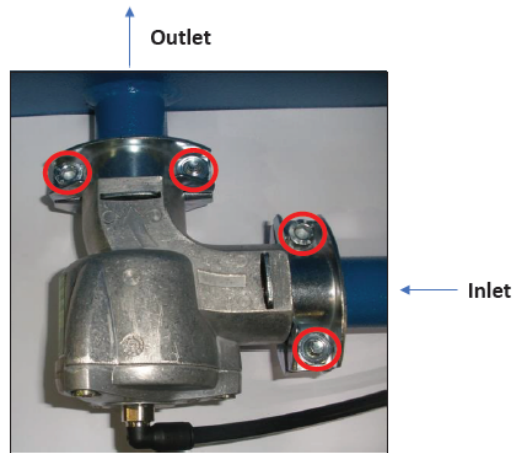

Figure 5-3 Valve Securing Screws
1. Loosen the 4 socket head cap screws on the clamps, circled in red below. See Fig. 5-3.